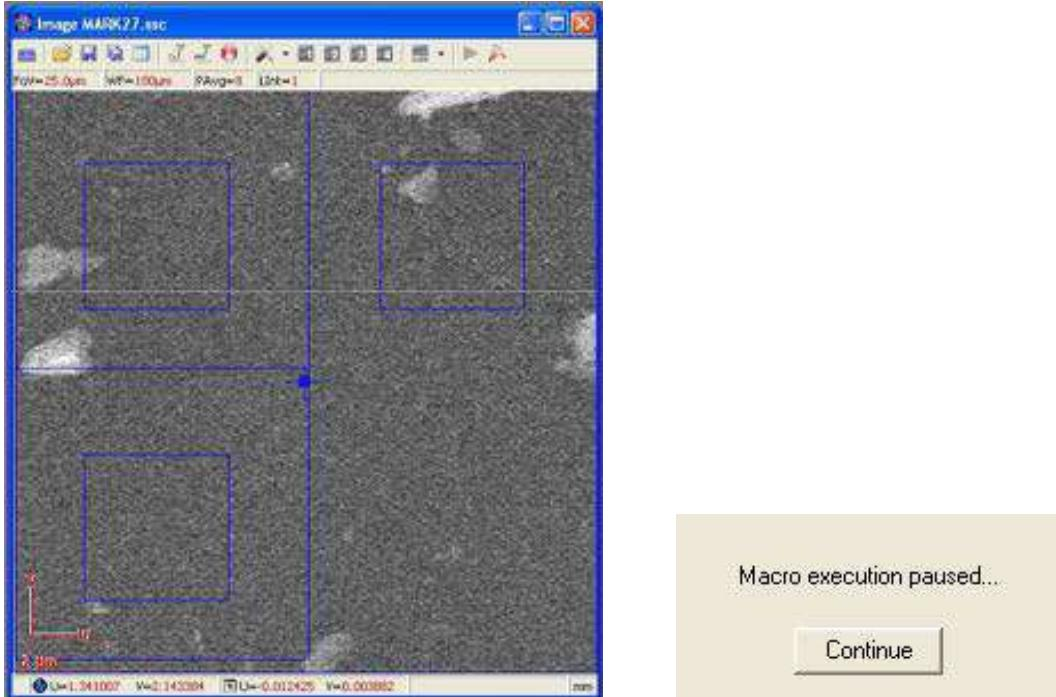

Figure 24 (a) Writefield alignment procedure window, and (b) user prompt to confirm crosshair alignment
23. The pop-up window from steps 20-21 will refresh and a crosshair and various boxes will appear on the window (Fig. 24(a)). The user is supposed to select a location of interest, hold down the **Ctrl** key and drag the crosshair onto the *exact same location of interest* three or more times. Each time a pop-up window (Fig. 24(b)) will prompt the user to confirm accuracy of crosshair alignment.